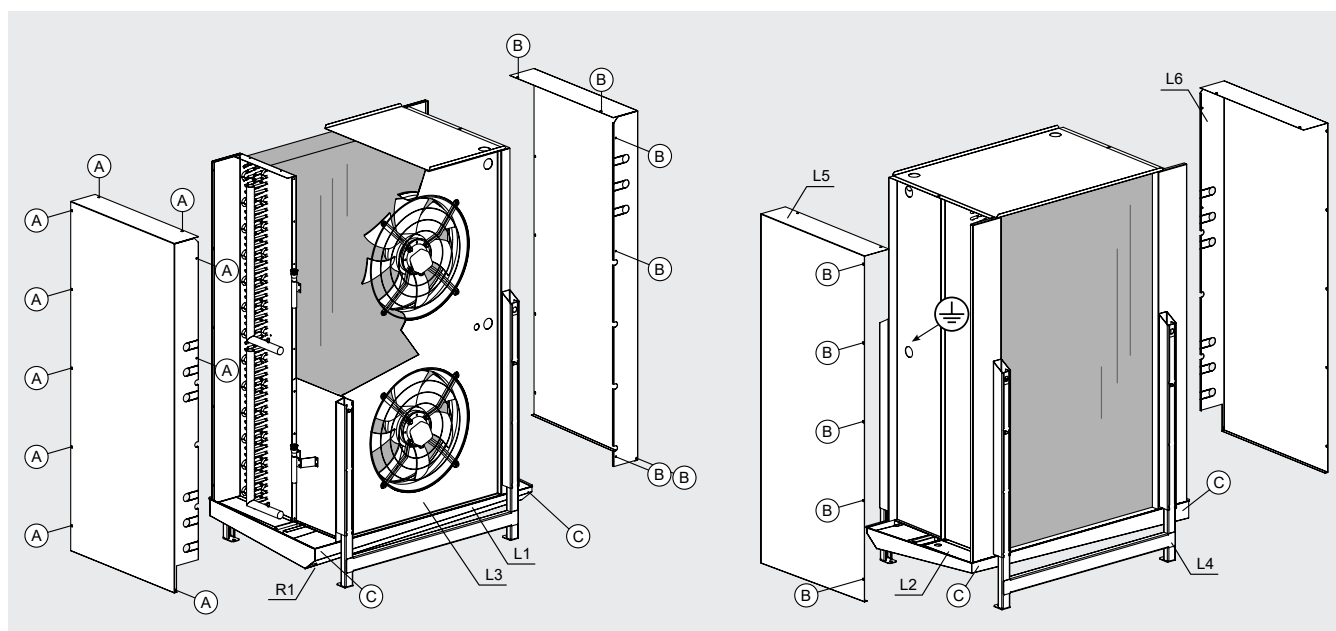

Figure 5
- 8.1 Unscrew the screws "B" and slide the L5 panel off to the side to access the manifolds and distributors. Use the openings on the side of the L5 panel for connections. See Figure 5.